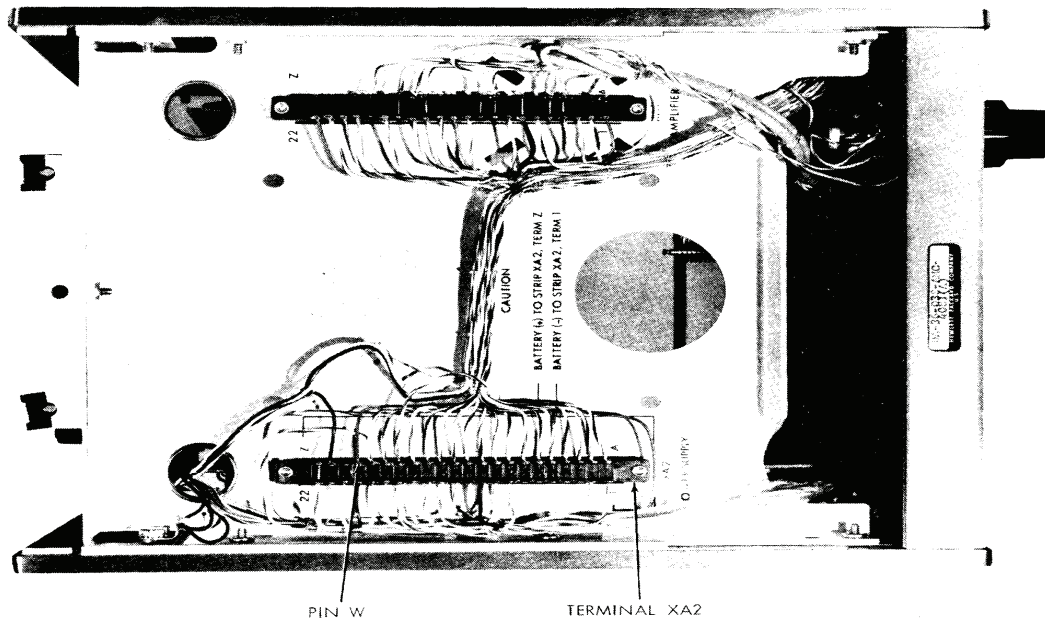

Figure 4. Top internal view.
- (1) Connect multimeter to pin W of terminal board XA2 (fig. 4) and ground.